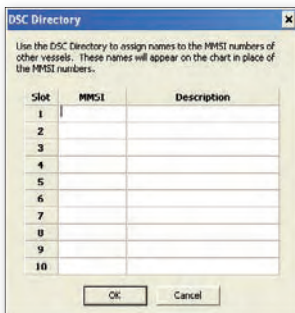

Figure 8.19 - DSC Directory
- **DSC Directory.** The DSC directory (**Figure 8.19**) is where you can input the MMSI Number and a description (or name) of vessels polled with your DSC radio. The description you input will appear on your charts instead of the MMSI Number. These settings can be saved for future use.